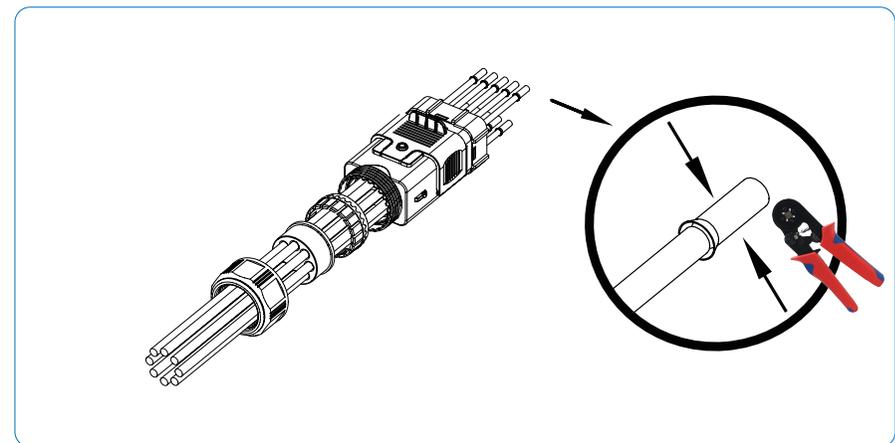

Figure 5-12
2) Insert the stripped cable into the tubular terminal and crimp it securely with a dedicated crimping tool, as shown in Figure 5-12.